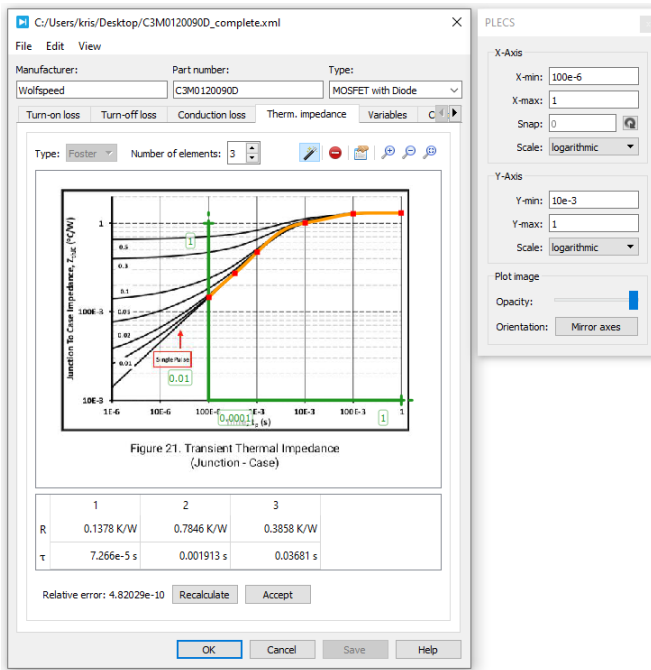

Figure 3: Thermal impedance curve import
- 1 The thermal impedance for the device has already been specified using a 4-element Cauer chain, but if you have time you can replace these values using information from the datasheet. Datasheets will often provide Foster or Cauer network coefficients, but in this case, only the heating curves are provided. The Curve Import Wizard tool has a fitting algorithm to calculate Foster network coefficients from the Single-Pulse test curve. Click on the **Therm. impedance** tab and then the  button in the top-right corner of the table area. Drop a screenshot image of **Figure 21** into the window. An image file `C3M0065090J_datasheet_figure21_thermal_impedance.png` has been provided already. You will need to enter the limits in the **Configure axes** widget to the right and line up the green axis guides with the axes on the plot as you did before. It is recommended to use $100e-6$ as the lower limit of the X-axis (**X-min**) to avoid that very small Foster element coefficients are calculated resulting in stiff differential equations. You should then start setting points to recreate the Single-Pulse curve by carefully double-clicking along it. When you have selected the points with sufficient accuracy, increase the **Number of elements** to 1. PLECS calculates a set of Foster coefficients and displays the result as an orange curve on top of the graph. Increase the **Number of elements** until the orange curve graphically indicates a close match to the Single-Pulse curve (~4 elements should be appropriate). If the current fit is not satisfactory, you can calculate a new one by pressing the **Recalculate** button or provide more resolution to the fit by adding additional points along the curve. Fig. 3 shows a complete curve fit and resultant coefficients. When you are satisfied with the fit, click the **Accept** button, followed by the **Save** button. Note that doing this will overwrite the original thermal impedance data provided with the file.